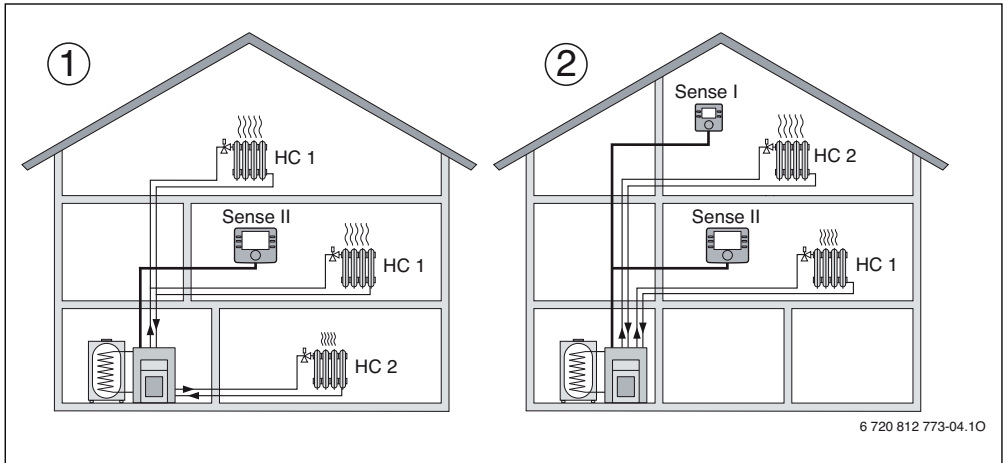

Fig. 1 Example for heating systems with one or two heating circuits
- Living space in combination with an area used for commercial usage. (→ Fig. 1, [1])
- House with annex with Sense II as controller and Sense I as remote control (installation of Sense II in the reference room of the house, Sense I in the reference room of the annex, → Fig. 1, [2])